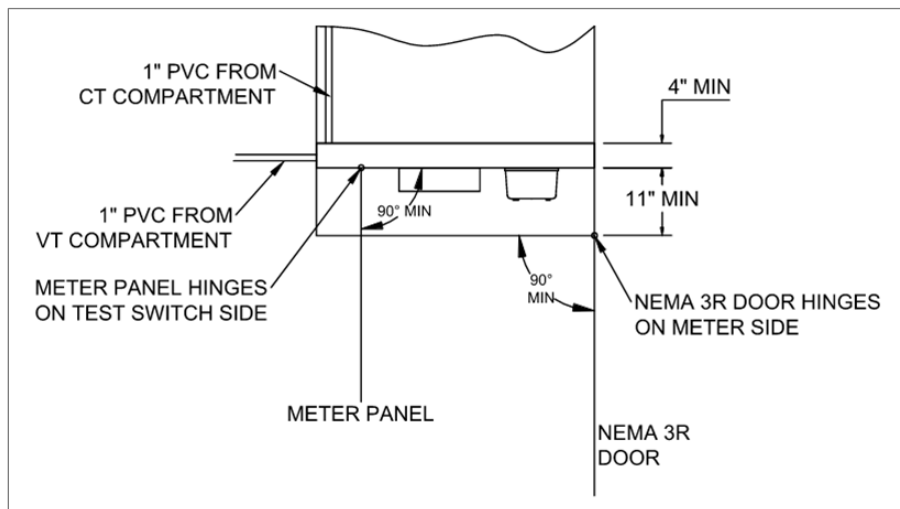

Figure 7: Meter Panel Clearances (top view) for 12.47 kV and 34.5 kV (STD-M-3001)
- A minimum 1/4-inch clear polycarbonate insulating barrier is required between metering CTs and the access door. This barrier must be hinged to allow unobstructed access to the metering CTs and bus, as shown **Figure 7**.